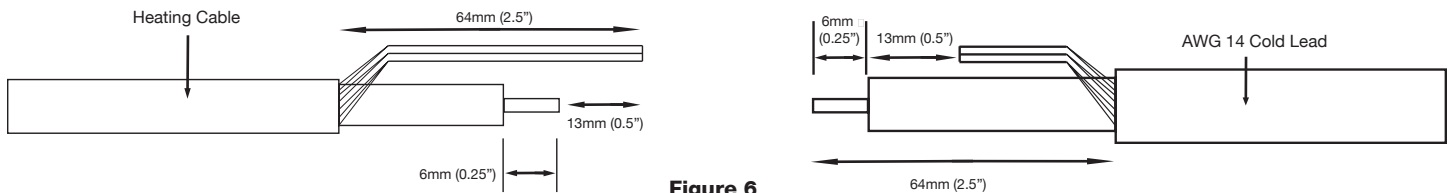

Figure 6
5. Trim the primary conductor of the heating cable 0.5" (12.70mm) back from the braid pigtail, and trim the braid pigtail on the cold lead 0.5" (12.70mm) back from the primary conductor on the cold lead (see Figure 6). This allows the ground braid connection to be offset from the primary conductor connection, which minimizes both the size of the repaired area and the potential for the ground connection to penetrate the primary connection.